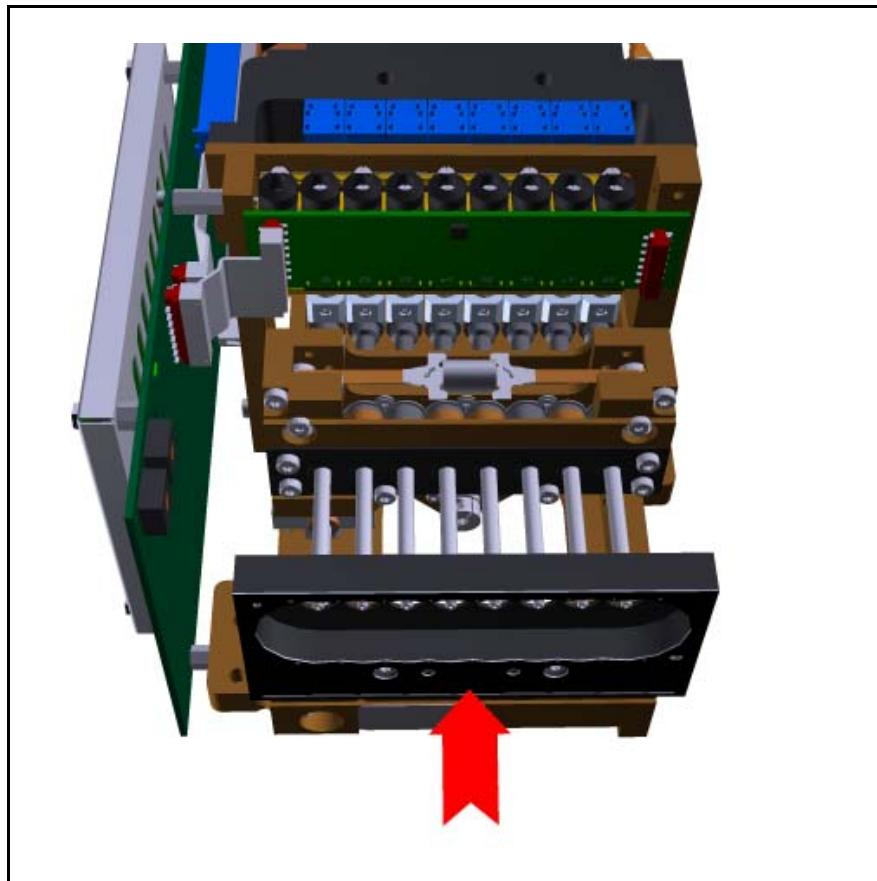

Figure 16-13. Clean reference background.
- Wipe off the reference background (see Figure 16-13) on the HYDRA unit with a cloth.